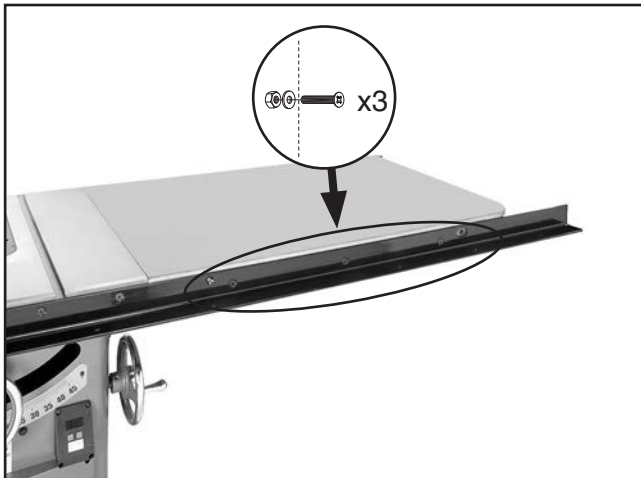

Figure 29. Front rail/table fastener locations.
3. While an assistant holds the extension table, fasten the front rail to the extension table with (3) M8-1.25 x 25 flat head screws, 8mm flat washers and M8-1.25 hex nuts (see **Figure 29**). Finger tighten the hex nuts for now.